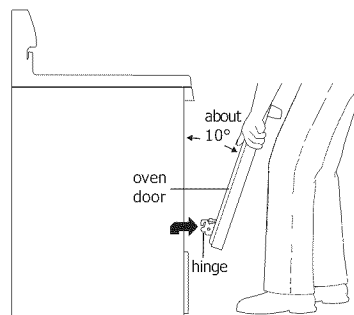

Figure 51: How to remove door
3. Firmly grasp both sides of oven door along the door sides (Do not use the oven door handle - Figure 51).
1. Firmly grasp both sides of oven door along the door sides (Do not use the oven door handle - Figure 51).